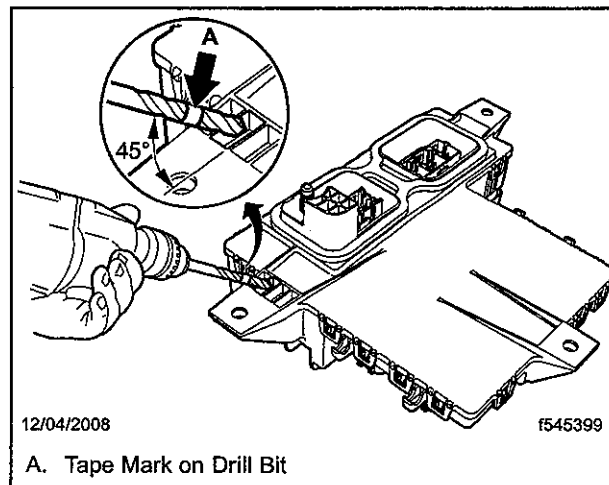

Fig. 15, Drilling the Drain Hole
29. With the SAM Chassis on a workbench, mark a 1/4-inch (6-mm) drill bit with tape at 1 inch (25 mm) from the end, then drill a drain hole in the lower mounting flange of the SAM chassis, as shown in **Fig. 15**. Drill the hole at a 45-degree angle. Drill only to a depth of 1 inch (25 mm). **Don't drill any further.**